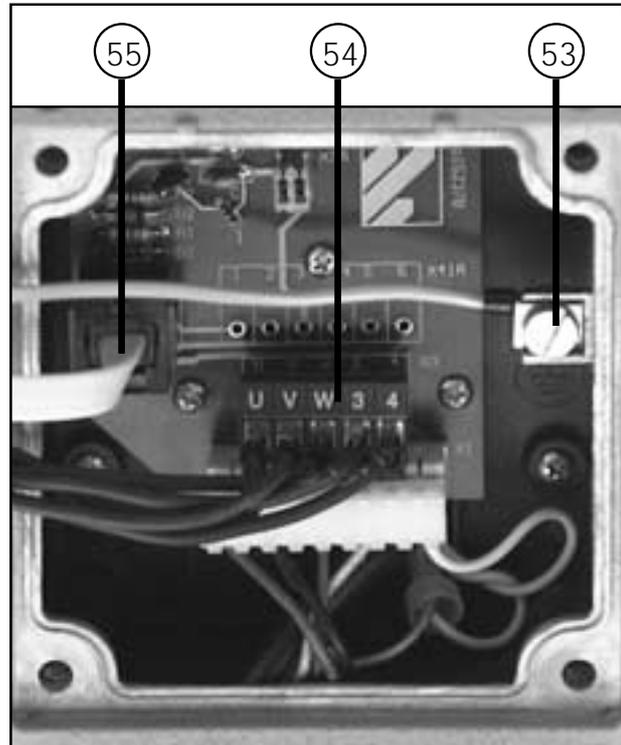

Fig. 7: Connections in door operator
- Connect control unit to door operator according to fig. 7.